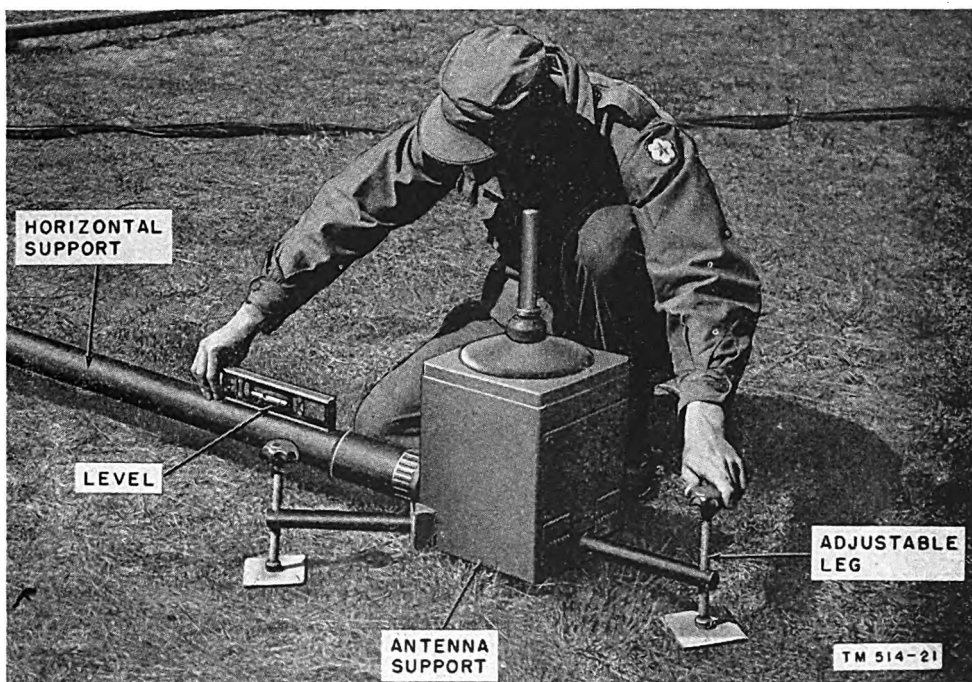

Figure 26. Leveling horizontal support.
- (1) Using the 12-inch level from Chest CY-363/CRD-2, level each of the four horizontal supports by placing the level on the end which is connected to the antenna support (fig. 26). Adjust only the outside leg, attached to the antenna support, until the horizontal support is level.
- (2) Place the level on top junction box and level it by adjusting its two leveling legs.
- (3) Check the level of each antenna support and, if necessary, level by adjust-